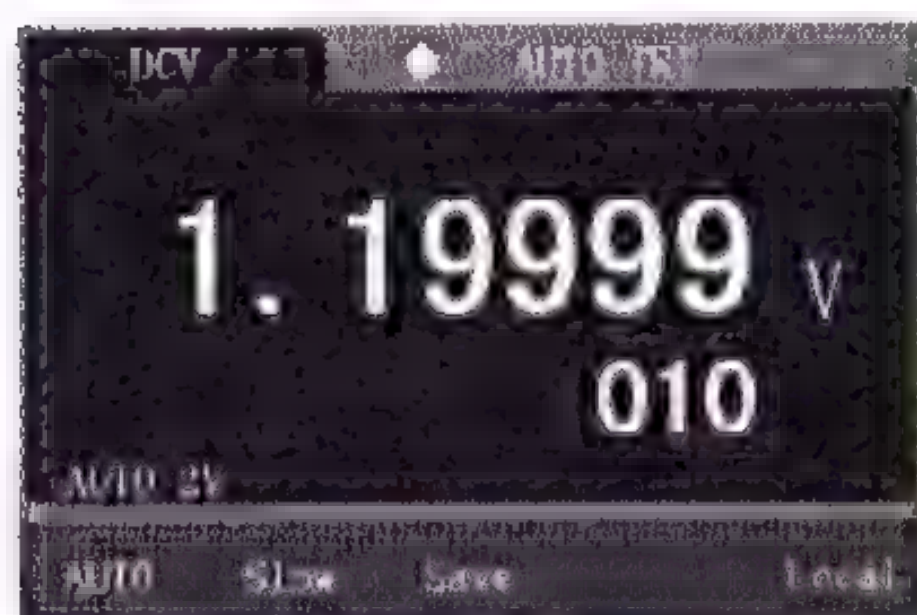

Figure 5-13 Data save function
1. Press  to select the save function, as shown in Figure 5-13. Press  again to exit the save function.